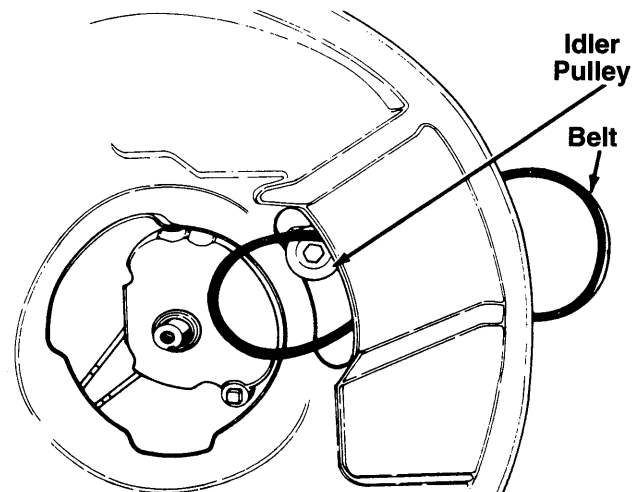

FIGURE 21.
- A. Push the idler pulley up out of the way as shown in figure 21.
- B. Slide the belt in from the rear of the deck, and place it around the transmission pulley. See figure 21.